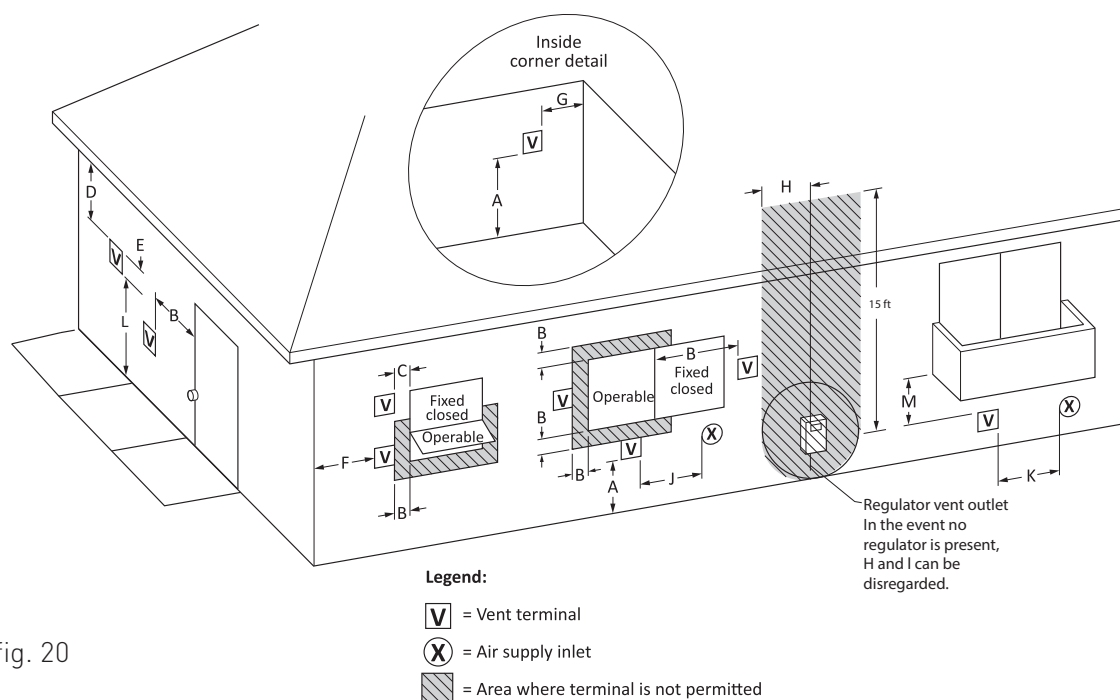

fig. 20
- › In case of horizontal polypropylene co-axial system installation, properly orientate the horizontal co-axial terminal in relation to the slopes inside the exhaust pipe and to protect the combustion air pipe from adverse weather conditions (Refer to section 1.1.18, sub-section III (a) and figure 20).
Ensure that the adapters are installed correctly into the correct locations as per the attached figure 20.